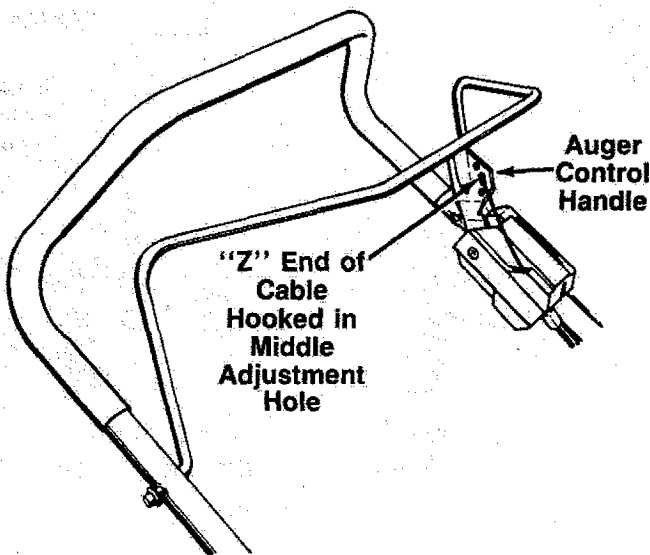

FIGURE 2.
- Connect the control cable to the control handle by hooking the "Z" end of the control cable into the middle hole in the control handle. See figure 2.